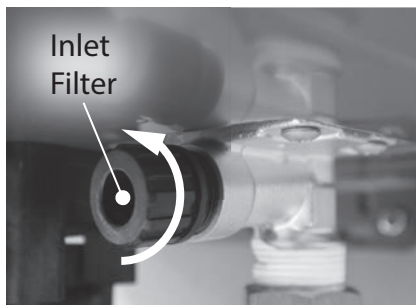

Figure 227 - Locate and remove inlet filter
- 8 Locate and remove the inlet filter as shown in Figure 227 to drain any residual water left in the system.